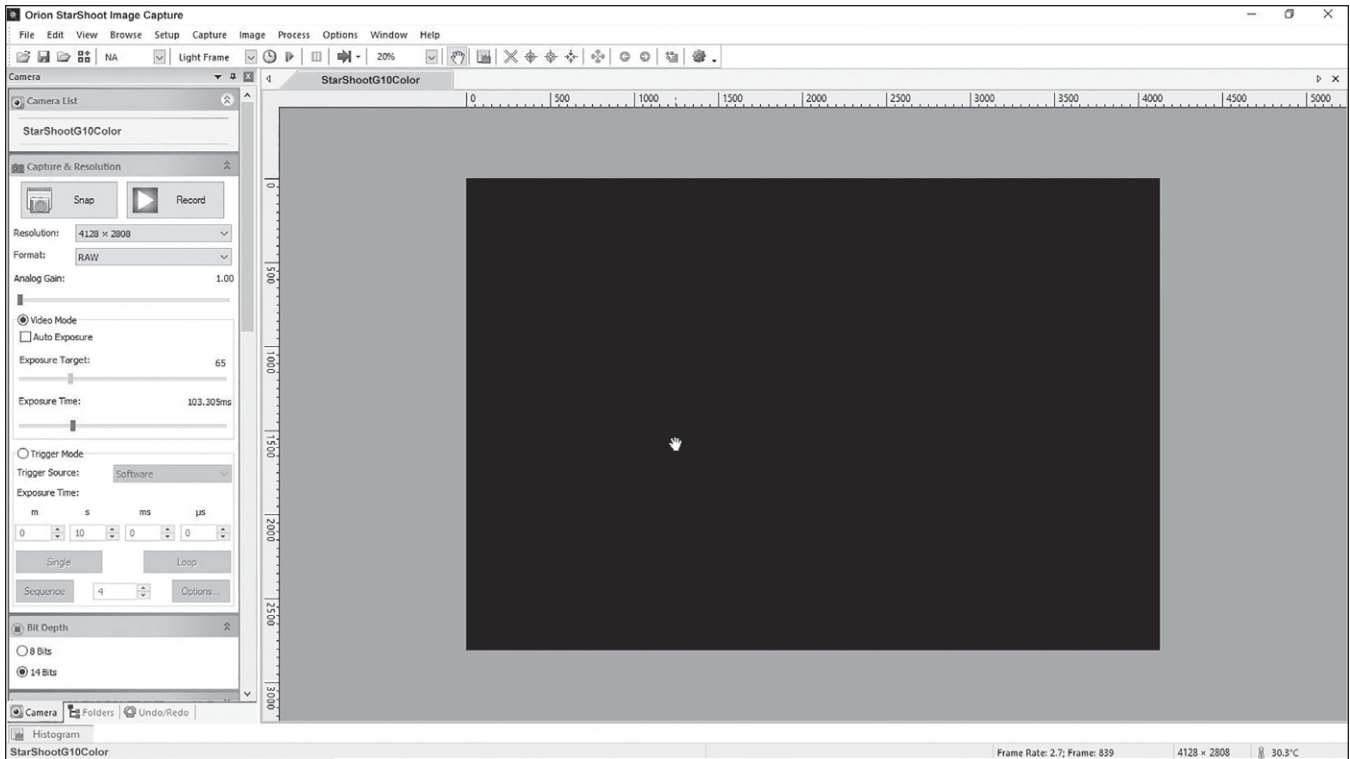
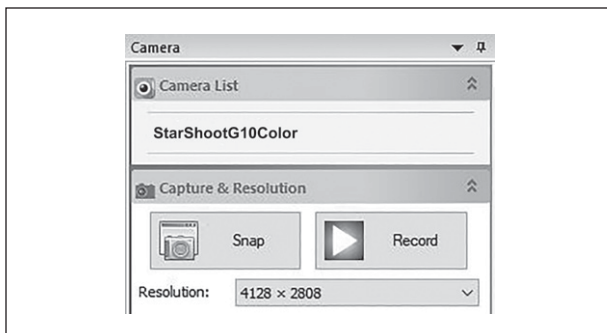
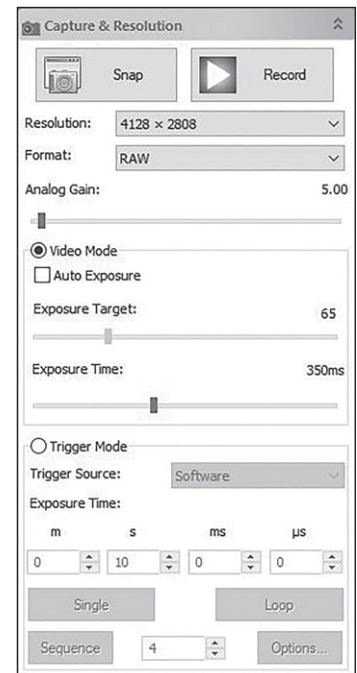

Figure 4. Primary software screen.
Figure 4a. Camera model – click this text to connect to the camera and start the preview.
Figure 5. The Capture and Resolution window pane
Plug the camera into the USB 3 port, and into AC power. When you open Orion Starshoot Image Capture, you'll be presented with the main preview window on the right, and the control options on the left-hand side. (**Figure 4**). On the top of the left-hand side, click the camera name to start a video preview (**Figure 4a**). Scrolling down the left-hand side, you'll find all the controls for operating the camera. The primary window to control the exposure and to use first is the Capture and Resolution window (**Figure 5**). In this window, you can set either video or still image mode (trigger mode), as well as set the resolution and gain of the camera and set single, looping, or sequence shots to be saved automatically in a chosen directory.
2. In the Capture and Resolution window (**Figure 5**), set the resolution to full, the gain to somewhere in the middle of the slider, and the exposure to video mode with “auto exposure” unchecked, and an exposure time to somewhere around 200-500 milliseconds. This should provide you with several frames per second, enough to see a real time focus preview.